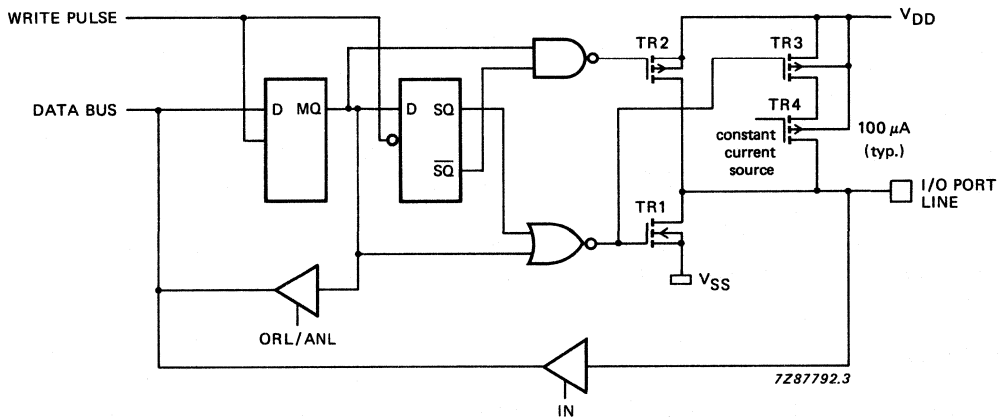

Fig. 10 Standard output with switch pull-up current source.
Fig. 10 shows the quasi-bidirectional I/O interface with push-pull output and switched pull-up current source.
- Option 1 – **STANDARD PORT**; quasi-bidirectional I/O with switched pull-up current source of 100  $\mu\text{A}$  (typ.) and P-channel booster transistor TR2. TR2 is only active during 1 clock cycle (Fig. 10).